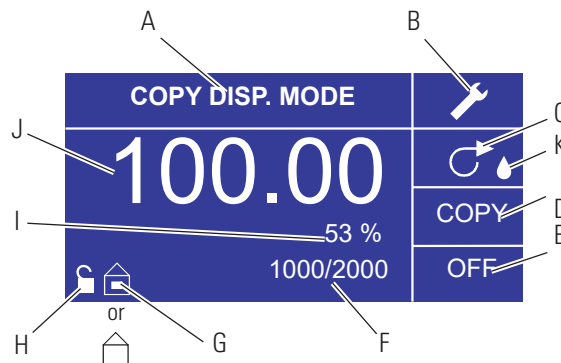

Figure 3-6. Copy Dispense Mode Screen
7. Setting Batch Size: Use the directional pad and ENTER key to select the Batch Count icon from the operation screen (see position F, Figure 3-6). From Batch Count screen use the UP/DOWN arrows to select batch size. Press ENTER to validate batch size. When set to zero (0) the drive will run for an infinite number of cycles and the symbol is displayed. Select EXIT to return to the Copy Dispense Mode screen.
9. **Reset Batch Count:** Use the directional pad and the ENTER key to select the BATCH COUNT icon (see position F, Figure 3-6). In the BATCH COUNT screen, select RESET and press the ENTER key to reset the batch count. Select EXIT to return to the Copy Mode Operation screen.